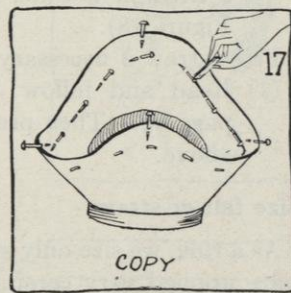

FIG. 17.
- f. If the pins give the correct line, chalk the outline of the edge (see Figure 17). If the brim comes up on the crown, chalk the outline of headsize too, as shown in Figure 33 A, of Job 7 (page 31).